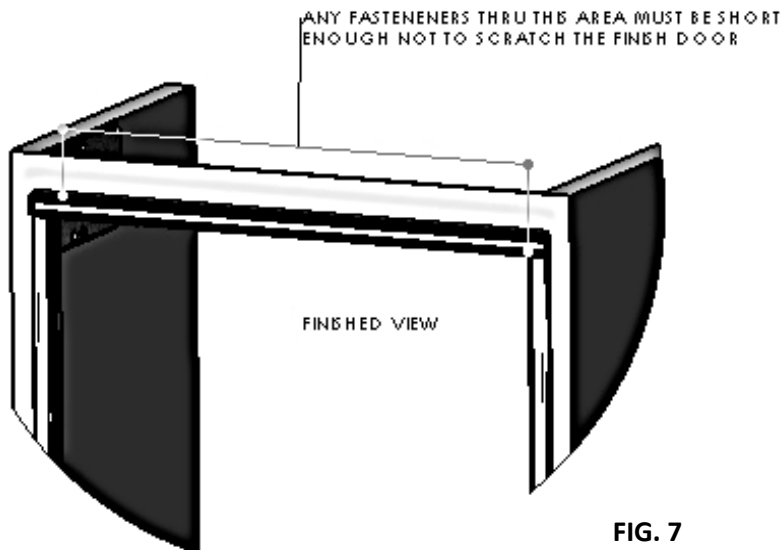
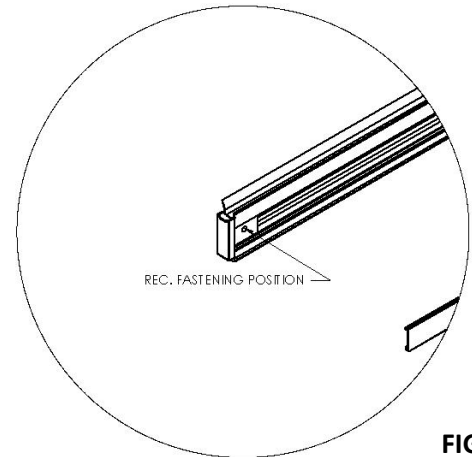

FIG. 7
FIG. 8
- c. **Rain Gutter** - The front face of the guides should be pre-cut $3/16$ " less than your overall opening. This gap between the front face of our guide and your header is where the rain gutter is installed. **Be sure that when drilling the body to attach rain gutter not to drill into the face of the door. Be sure to use fasteners short enough not to scratch or obstruct the door.** (See FIG.7) It is recommended to slide gutter cap ends in place and pre-drill thru the cap ends and apply fasteners above door guides through the gutter end cap holes after they are installed (See FIG 8). At this time, pre-drill using a $7/32$ " drill bit, fix the rain gutter securely with rivets (recommended: long Multi-grip $3/16$ " x $3/4$ " "AD63-66-BS") or Stainless steel screws. Then install fastener cover into slots to hide the fasteners. (**NOTE:** If fasteners are used anywhere over the face of the door, **BE SURE** to use short fasteners so the door will not be damaged while rolling up.)